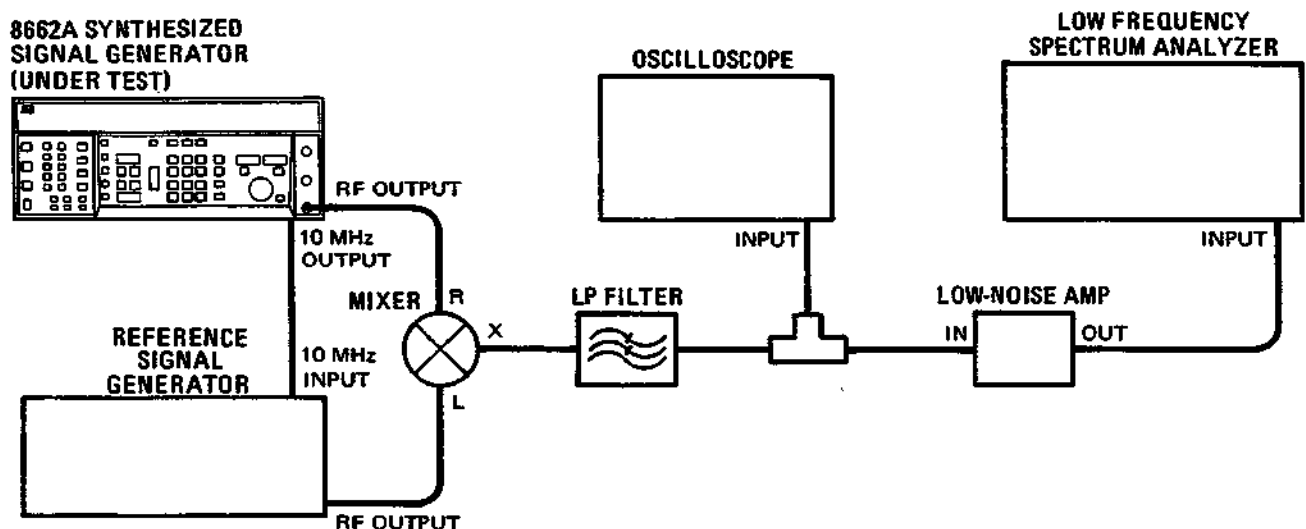

Figure 4-5. SSB Phase Noise Test Setup (Optional)
1. Connect the equipment as shown in Figure 4-5. The LP filter should have a bandwidth more than 10 times greater than the offset frequency where phase noise will be measured.